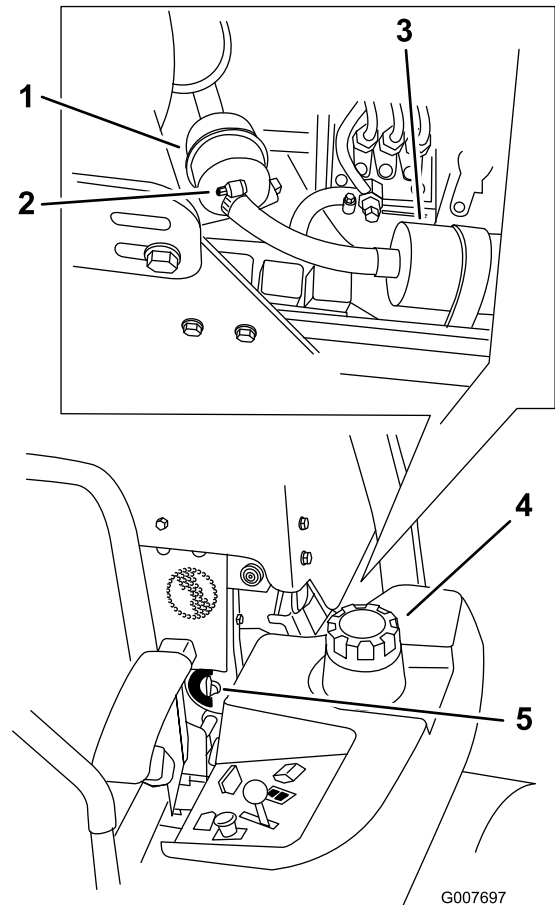

Figure 46
4. Close the fuel shut-off valve (Figure 46).
5. Loosen the two hose clamps and disconnect the fuel lines from the fuel filter (Figure 46).
6. Install a new filter. Connect the fuel lines to the fuel filter and install the two hose clamps (Figure 46).